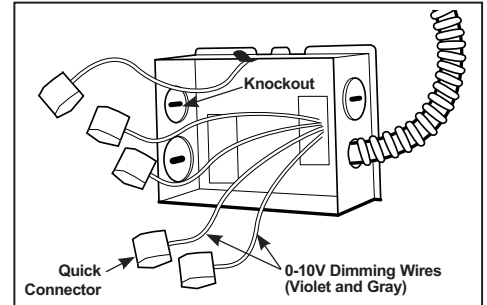

Figure 5
**Step 2.** Remove wiring box cover. Remove the appropriate round knock-out(s) and accommodate the type of electrical service to be used/allowed by your local electrical code. (Fig. 5)
**Step 3.** Strip supply wire 3/8" and insert each supply wire into appropriate connector. Connect black fixture wire to hot, white fixture wire to neutral and green fixture wire to ground. (Fig. 5)